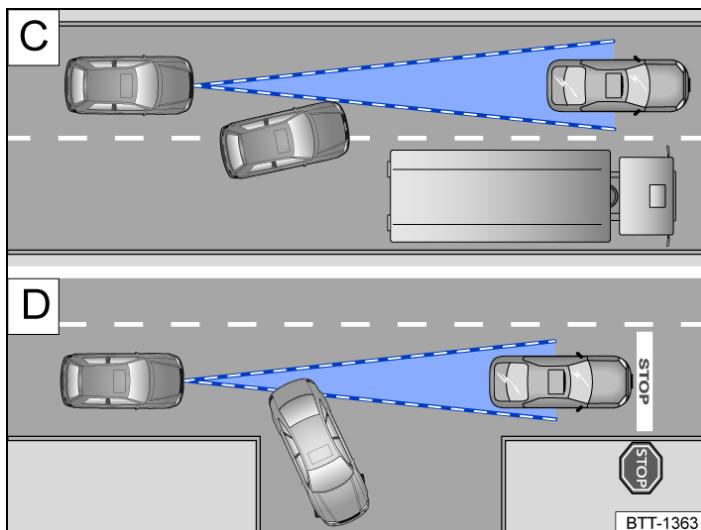

Fig. 2 **C** Vehicle changes lane. **D** Turning and stationary vehicle.
If a stationary vehicle is hidden behind a vehicle that has been detected by the adaptive cruise control and this vehicle turns off the road or changes lane, the ACC will not react to the stationary vehicle → *Fig. 2 D*.
- Vehicles that change into your lane directly in front of your vehicle → *Fig. 2 C*.